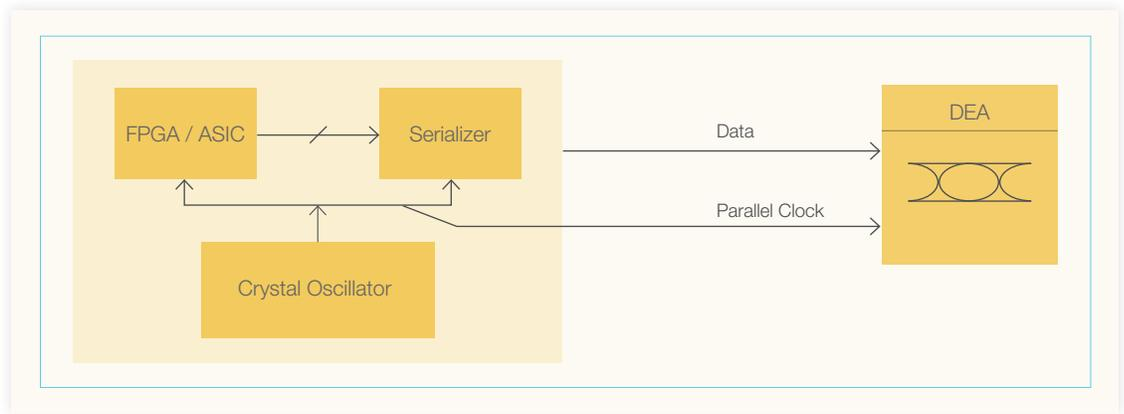

Fig 3.2.1.1. Triggering DEA with parallel clock
**3.2.1: Reference Parallel Clock:** If a parallel clock is available in the parallel-serial system, it can be used for triggering DEA. Fig 3.2.1.1 shows the configuration.